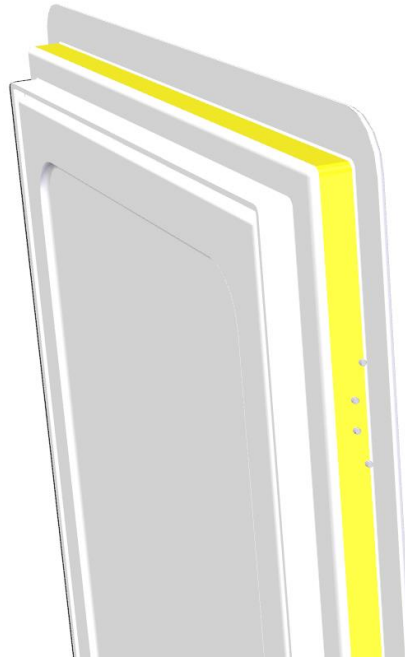

Figure 5: Bonding Surface Area
- 13.3. Additionally, apply more adhesive around the door frame where the GRP will contact the cut faces of the panels all the way around, shown in Yellow in Figure 5.